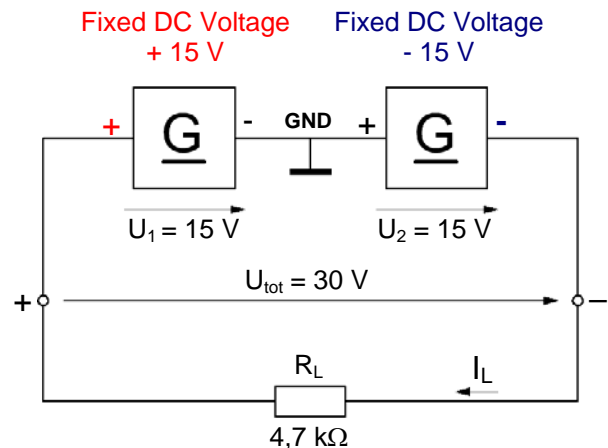

Fig. 6.2.2.1: Series circuit of 2 voltage sources
One of the poles of the DC voltage sources on the Electronic Circuits Board connected together. This forms the reference point known as Ground, 'GND' (or 'earth'). In Fig. 6.2.2.1 the reference point GND, is shown between the DC voltage generators by its standard circuit symbol.
The negative pole of **Source 1 (red)** and the plus pole of **Source 2 (blue)** are connected to GND. This then gives a series circuit of both voltages when a load is connected across the 'free' poles (Fig. 6.2.2). individual voltages ( $U_1$ ,  $U_2$ ) add to produce the total voltage  $U_{\text{tot}} = 30\text{ V}$  which causes the load current  $I_L$  to flow in the consumer ( $R_L = 4,7\text{ k}\Omega$ ).
- Connect the two Fixed DC Voltage together as shown in Fig. 6.2.2. Connect a load resistor of  $R_L = 4,7\text{ k}\Omega$  at the output ( $U_{\text{tot}} = 30\text{ V}$ ) The correct assembly layout is shown in section 6.2.3.
- Which current direction – technical or physical – is indicated for the load current,  $I_L$  in Fig. 6.2.2.1 and why?